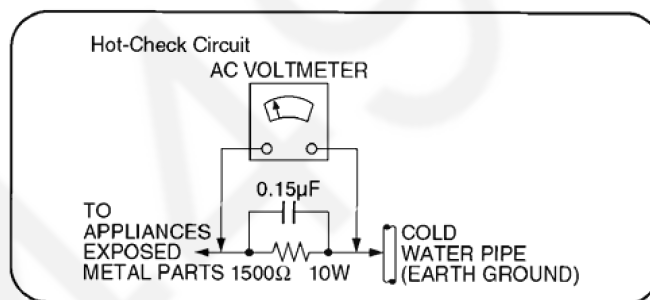

Figure 5.1
5.1.2. Leakage Current Hot Check (See Figure 5.1)
2. Connect a $1.5k\Omega$, 10 watts resistor, in parallel with a $0.15\mu F$ capacitor, between each exposed metallic part on the set and a good earth ground such as a water pipe, as shown in Figure 5.1.